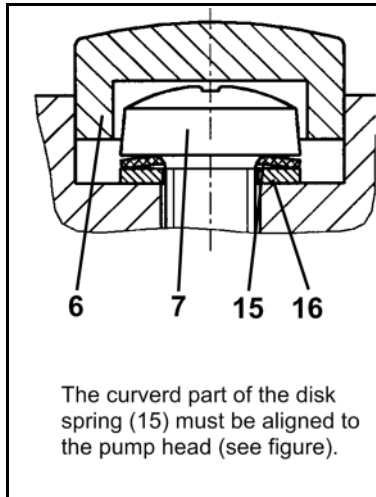

Fig. 6: Orientation disk spring
8. Place the head plate (4) on the intermediate plate (1), in the position indicated by the marking (M).
9. Check that the head plate (4) is centred by moving it gently sideways.
10. Join the head plate (4) and the intermediate plate (1): Tighten the two screws (7) (tightening torque: 70 Ncm).
i For placement of disk spring (15) and washer (16) and for orientation of disk spring see fig. 6.
11. Install the screw caps (6).